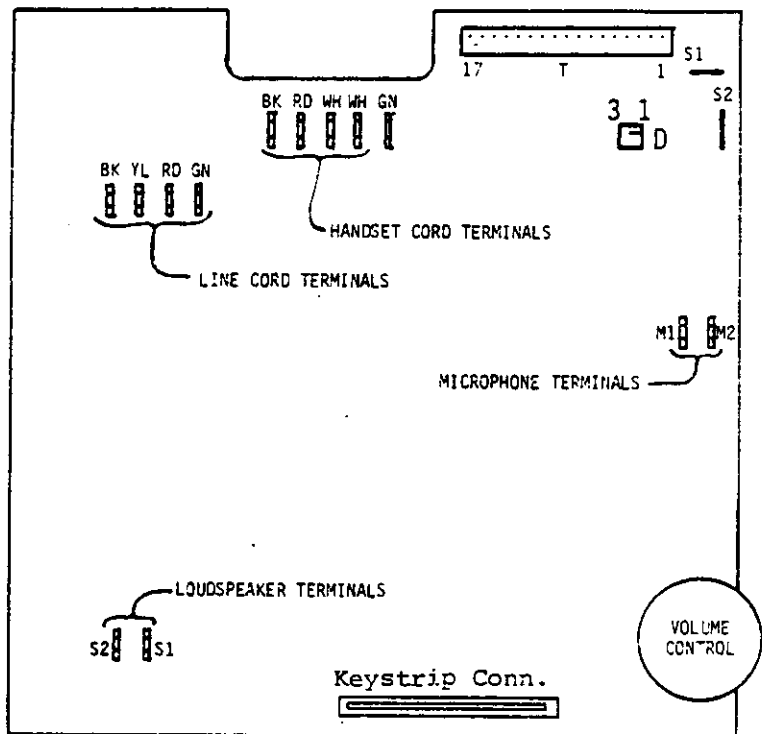

FIGURE 1 - ANU TERMINAL LOCATIONS
4.03 Before installing the dial, strap the D connector in the telephone as shown in table 1. Refer to figure 1 for location of the 'D' connector. This connector is strapped at the factory for rotary or OUT-PULSE dials and must be changed if tone dials are used.
- b) Plug the DTB board into connector 'T' in the telephone (see figure 1 for location). The DTB board is plugged in with the terminals toward the rear of the set (with pin 1 on the right side).